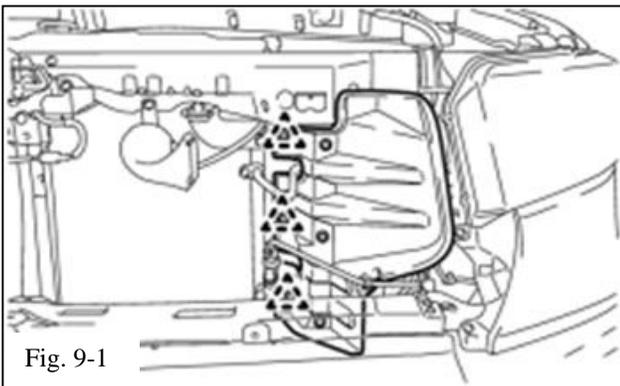

Fig. 9-1
- (a) Use a clip remover to remove the 3 clips and disconnect the radiator side deflector LH (Fig. 9-1).